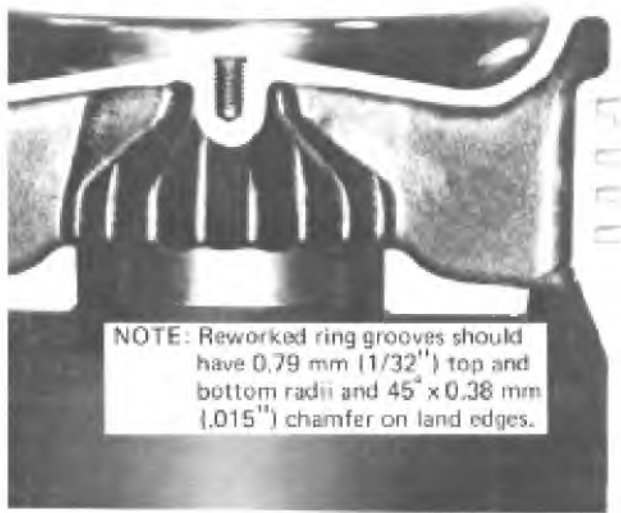

Fig. 3-10 - Typical Piston Ring Groove Wear Step
4. Check piston ring groove wear step. Check wear step in top ring groove, Fig. 3-10. Top ring breakage can be caused by excessive wear step.